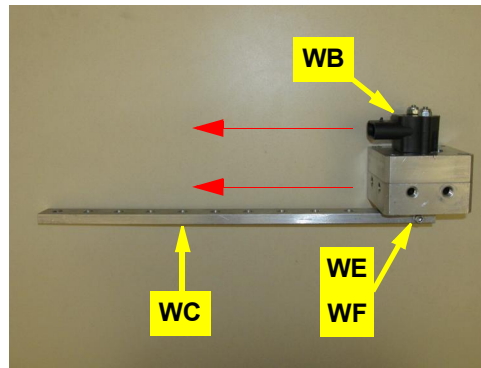

Figure 1c: Attached WAS arm
- c. Attach the WAS arm **WC** to the WAS assembly using the provided hardware **WF** (screw) and **WE** (nut). Mount the arm in the same direction as the WAS wire connector **WB** (Figure 1c).